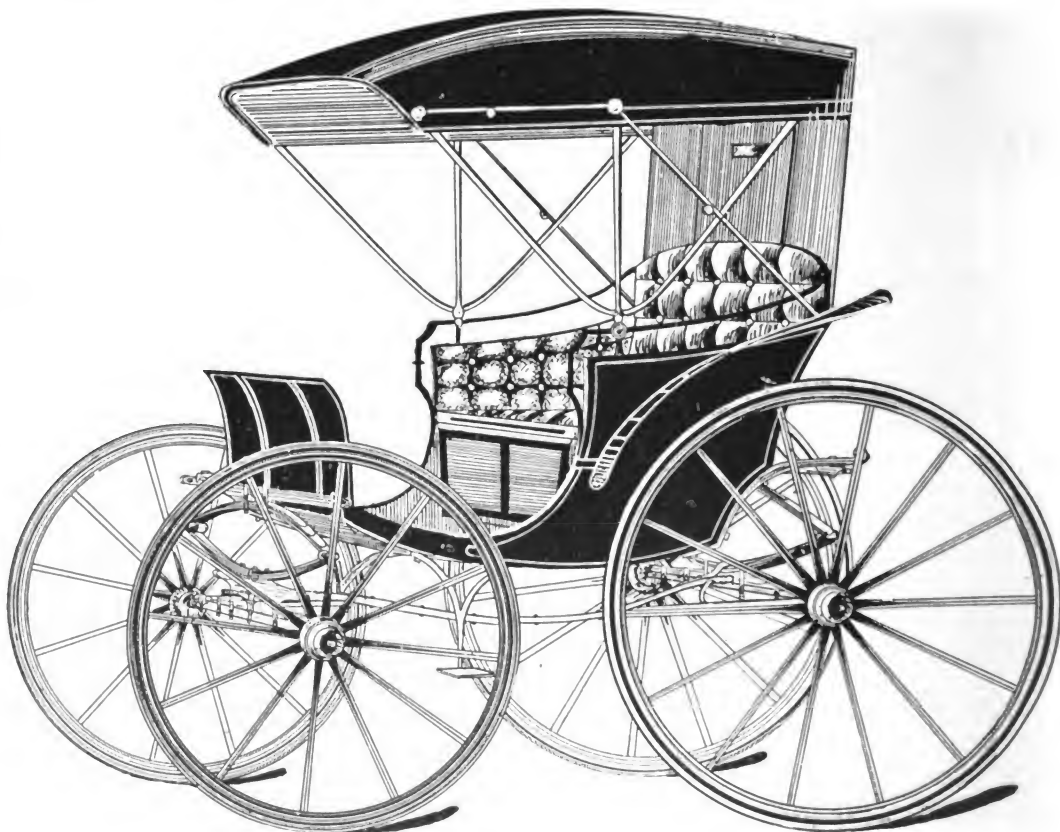

Fig. 5.—SHOWING THE FINISHED VEHICLE.
Fig. 5 is a perspective of the finished vehicle.
3. Fig. 5, that for the Heating Furnace 4, and on the right the final descending pipe leading to Forge 5. The lower end of this pipe shows the proper elbow for all descending pipes and to turn the blast toward the forge, with a blast gate at C, to regulate the force of the blast. In this final descending pipe should be a branch pipe, taken off at right angles, as shown at D, and provided with a blast gate, through which a portion of the volume of air may be discharged when some of the forges are idle. This relief blast gate should be in charge of the man at Forge 5, who should be required to attend to it when necessary.